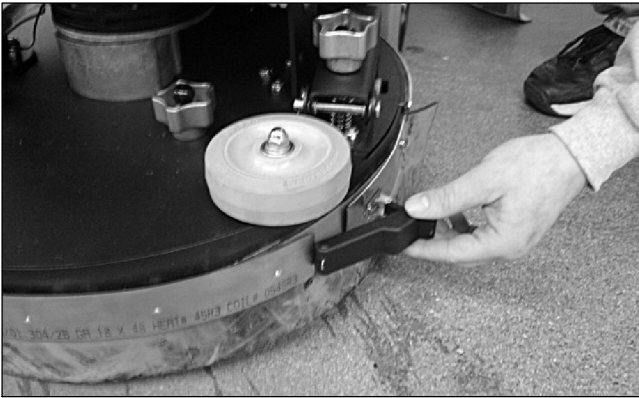

FIGURE 16.
1. RELEASE LATCH ON SIDE OF SCRUBDECK SHROUD TO LOOSEN CURTAIN BANDS. (SEE FIGURE 16.)